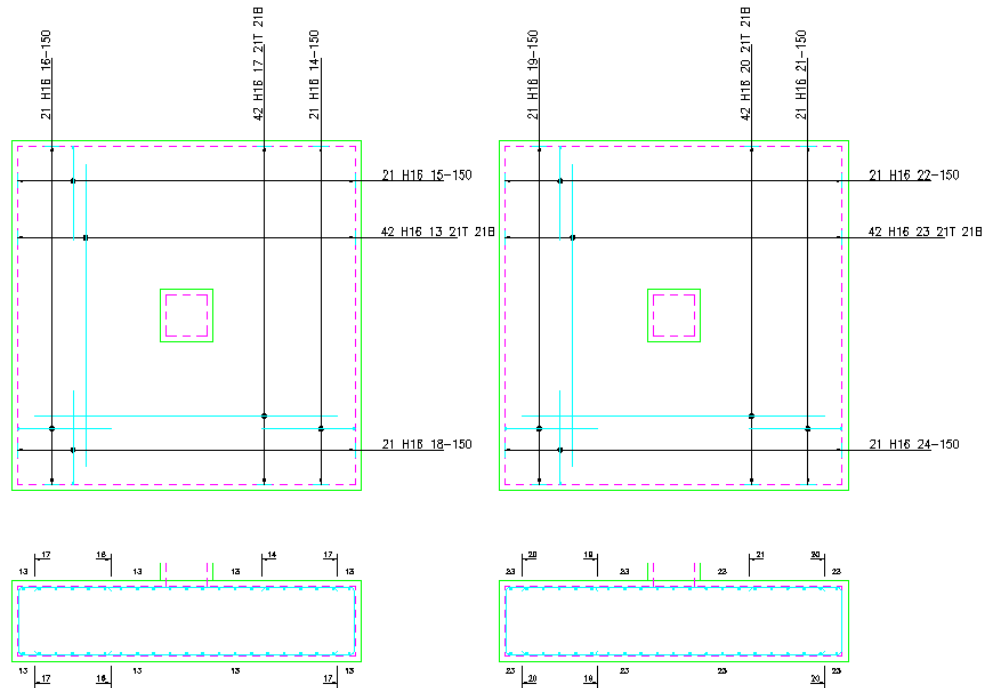

Figure 8.3.1:1 Running the Match Bars command
- This example will show how you might run **Match Bars**. The two Pad Bases shown in figure 8.3.1:1 below are detailed with Shape Code 21 and have exactly the same dimensions, bar size, and so on. They should therefore all have the same Bar Mark Number. However, they have been copied and pasted from another drawing and *CADS RC* has assigned new Bar Mark Numbers for each Bar Set. The Match Bars routine will assign the same Bar Mark to each Bar Set.
4. Make the Viewport on *Match Bars (03) Layout* active